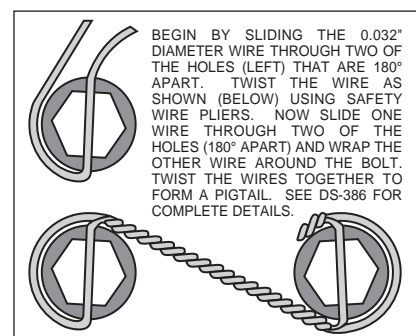

Figure 6. Safety Wire Diagram
- With the larger I.D. side of the rotor (4) facing away from the hat (3), bolt rotor (4) to hat (3) through the backside of the rotor using washers (5) and bolts (6). Torque bolts (6) in an alternating sequence to 103 in-lb. Safety wire bolts (6) using standard 0.032 inch diameter stainless steel safety wire as shown in Figure 6. Please refer to Wilwood's data sheet DS-386 (available at [www.wilwood.com/Pdf/DataSheets/ds386.pdf](http://www.wilwood.com/Pdf/DataSheets/ds386.pdf)) for complete safety wire installation instructions.